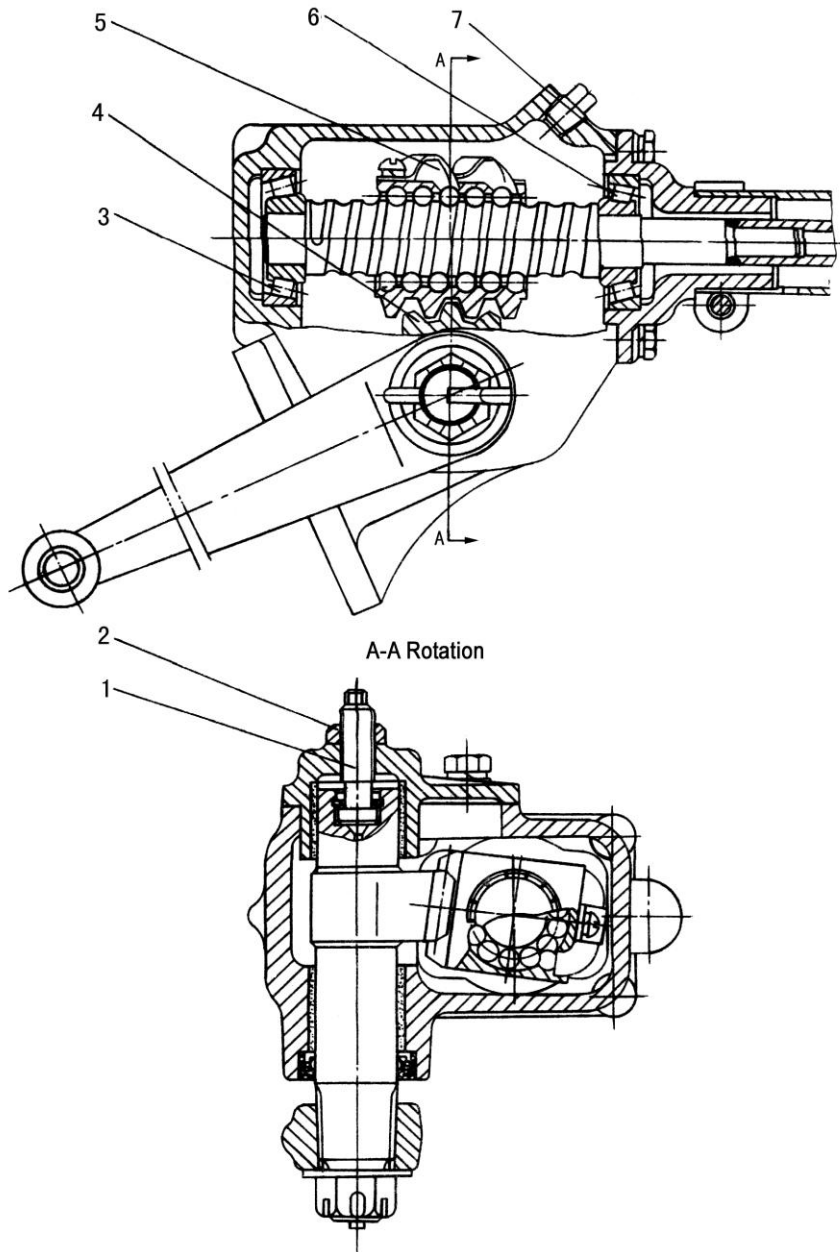

Fig.6-6 Ball-nut type steering gear
6.6 Adjustments on steering gears (Fig.6-6)